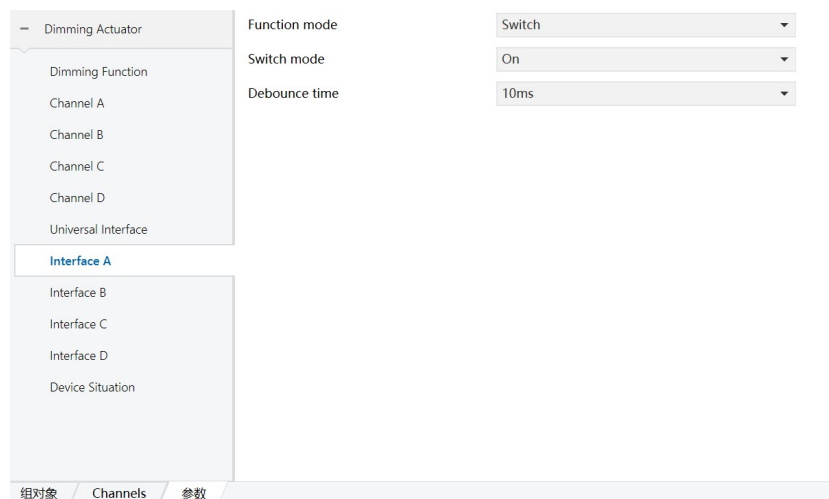

Figure 6.1.7
2) After the setting is completed, there will be Interface A-D four dry contact interfaces on the right. Click each dry contact interface to set its parameters. The following uses Universal Interface A as an example, as shown in Figure 6.1.7.